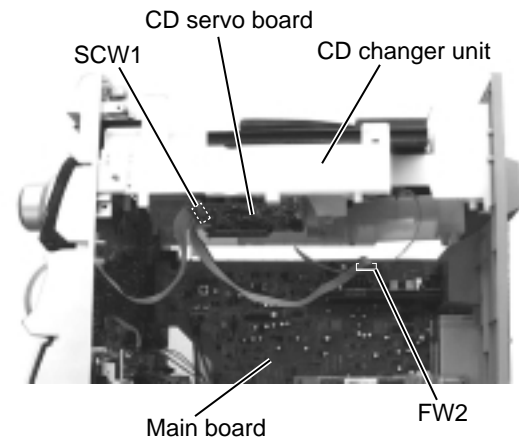

Fig.8
■Removing the CD changer unit (See Fig.8 to 10)